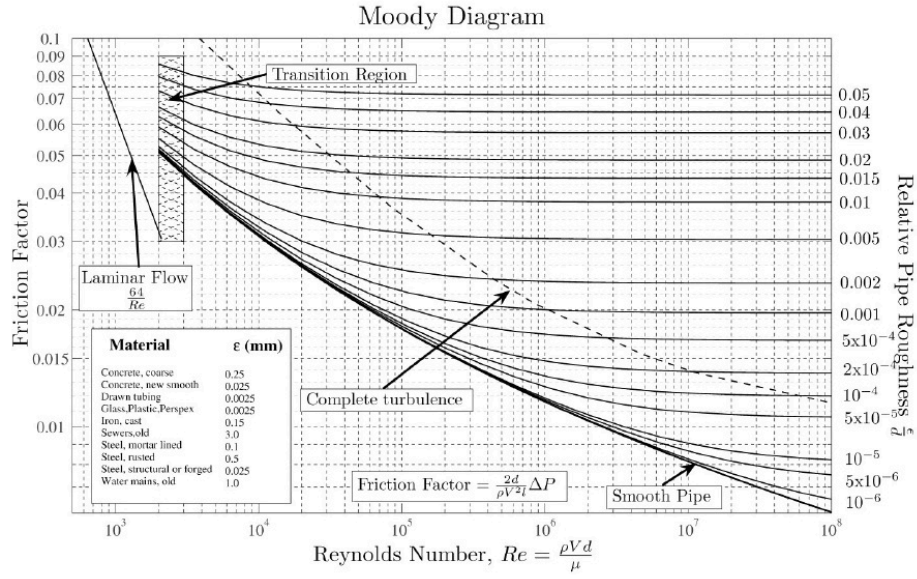

Figure 2: The Moody Diagram - Solutions to the Colebrook Equation [2]
where e is the roughness of the pipe and $Re = \frac{\rho \bar{V} D}{\mu}$ is the Reynolds number. ρ and μ are the density and viscosity of the fluid, respectively. The solutions to Equation 2 are plotted in Figure 2.
- ☐ (6 points) Write a `colebrook_equation` function that implements the Colebrook equation, Equation (2).
- ☐ (5 points) Compute the expected number of bisection iterations to achieve $E_{a,d}=1\%$ using Equation (4) and compare with the number of iterations required by your `bisection` function.
- ☐ (3 points) Using Figure 2, explain if the obtained root for the friction factor is reasonable.